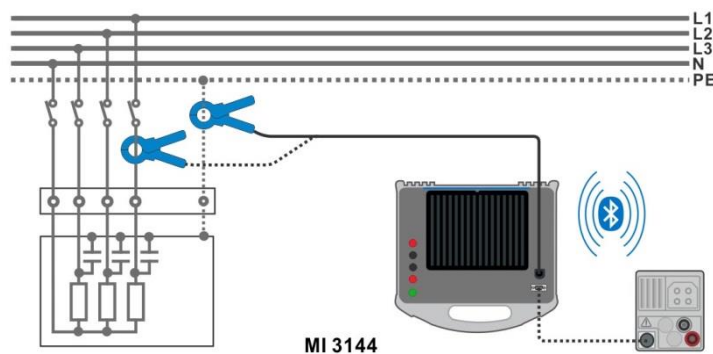

Figure 7.78: Current Clamp Meter measurement
- › Connect MI 3152(H) instrument with MI 3144 Euro Z instrument via serial RS232 or pair them using Bluetooth communication. See chapter **4.6.5.1 Selection and configuration of measuring adapters**.
- › Check Bluetooth communication active sign if MI 3144 Euro Z 800 V instrument is connected to MI 3152(H) instrument via Bluetooth communication.
- › Wrap the object under test with the measuring clamp. See **Figure 7.78**. Refer to *MI 3144 Euro Z 800 V Instruction manual* for detailed information.